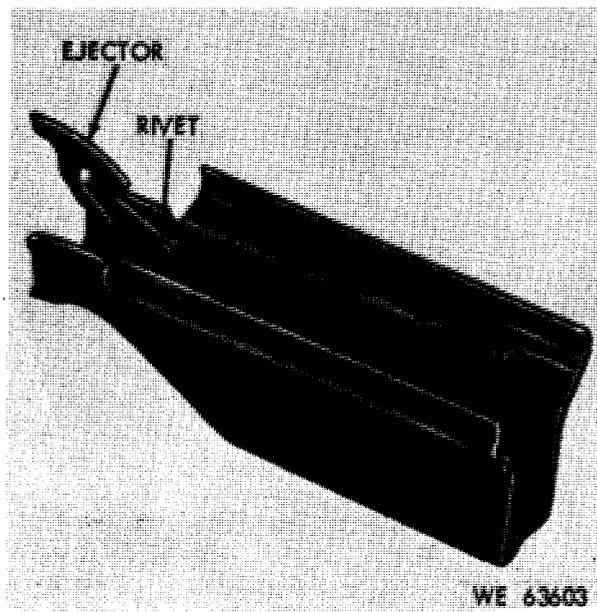

Figure 1-3. M3A1 housing assembly.
a. The housing assembly M3A1 (fig. 1-3) has been changed in design to eliminate the retracting handle, spring, lever assembly, and oiler clip. It contains the ejector, which is secured to the housing by two rivets.